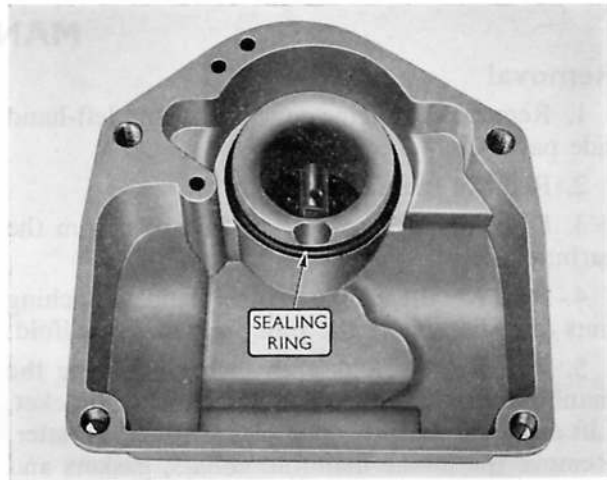

Fig. B.17. Sealing ring in position around the choke tube extension
3. Where necessary, renew the sealing ring around the choke tube (Fig. B.17). It must fit closely around the tube. A defective seal will cause neat fuel to leak from the float chamber into the choke tube.